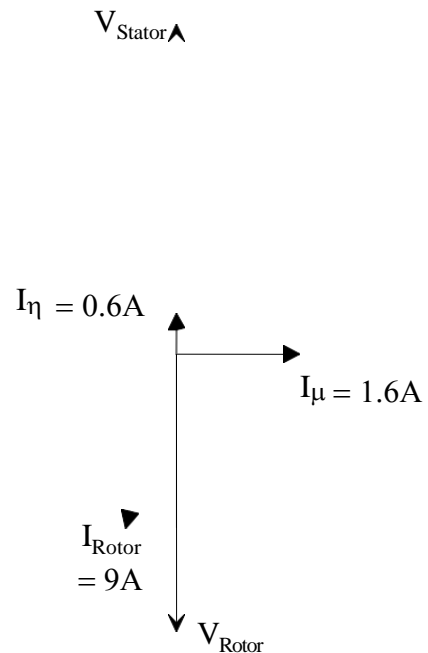

Figure 2
2. Figure 2 is a phasor diagram of a squirrel cage induction motor which shows three components of current in the motor. If the load component of stator current is one third of the rotor current complete the phasor diagram to determine:-